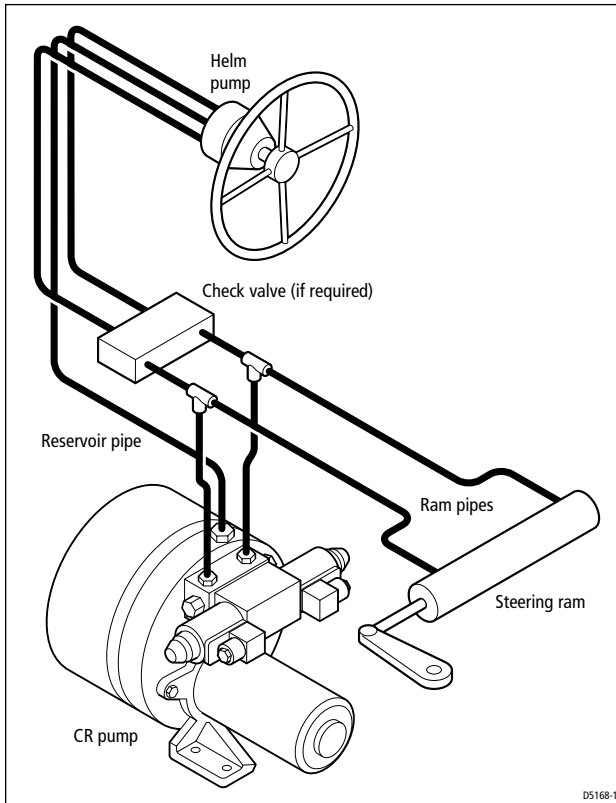

Figure 3: Autopilot pump location for two line systems
- If the boat has a single helm pump system **without** check valves, you must incorporate a double pilot check valve (part number: M81166) as shown in *Figure 3*.
- A double pilot check valve may also be necessary on long pipe runs - otherwise pipe expansion may cause poor autopilot performance. Install the check valve as shown in *Figure 3*.
Figure 3 shows a typical two line steering system. Hydraulic fluid flows into the ram in either direction, depending on the direction the helm pump rotates.
Connect the autopilot pump to the steering system as shown in Figure 3.